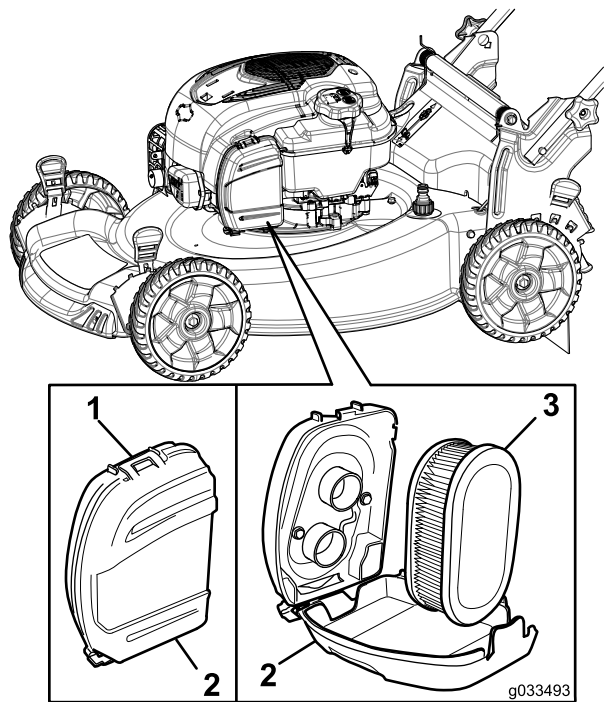

Figure 26
- 1. Unclip the top of the air-filter cover (Figure 26).
- 2. Remove the air filter (Figure 26).